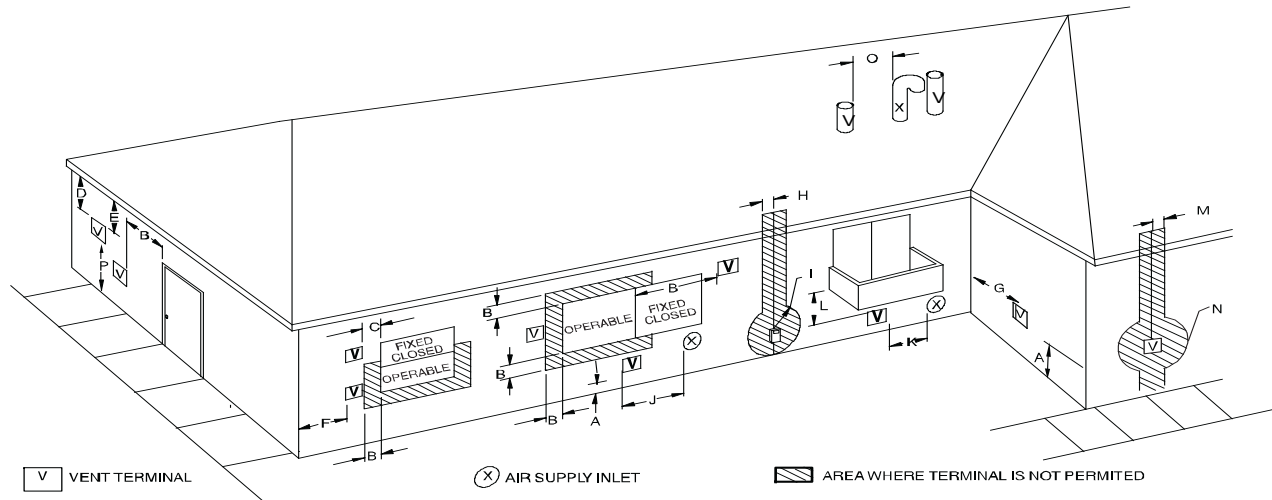
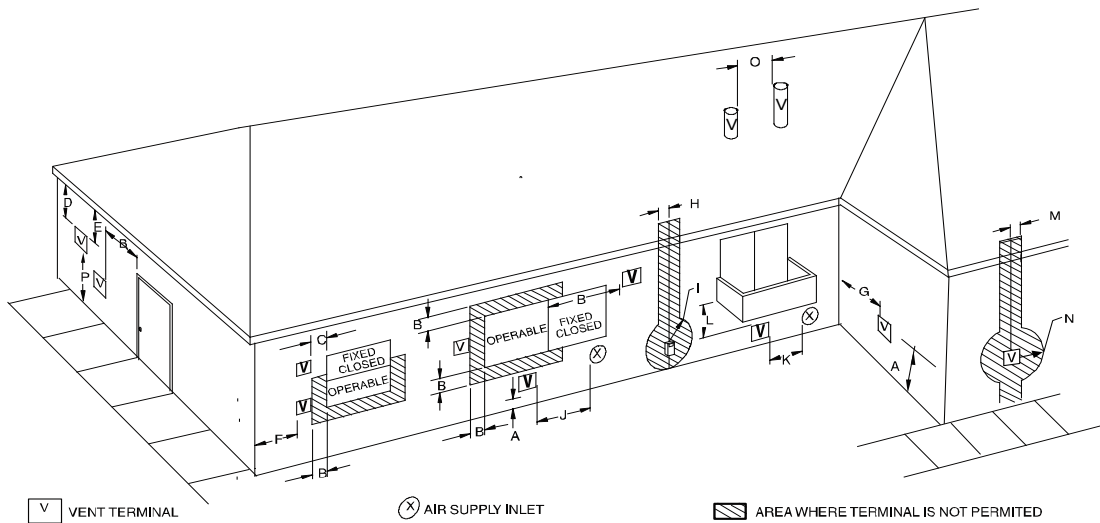
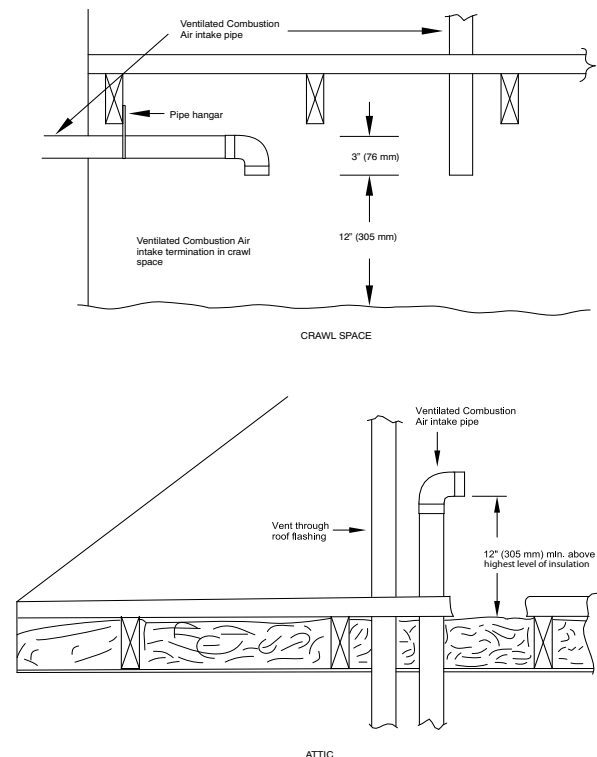

Fig. 43 – Direct Vent Termination Clearance
Fig. 44 – Ventilated Combustion Air and Non-Direct Vent Termination Clearance
Fig. 48 – Vent Terminations for Ventilating Combustion Air
In a direct-vent (2-pipe) system, all air for combustion is taken directly from outdoor atmosphere, and all flue products are discharged to outdoor atmosphere. Combustion-air and vent pipes must terminate together in the same atmospheric pressure zone, either through the roof (preferred) or a sidewall. See Fig. 43 for references to clearances required by National Code authorities.
In a ventilated combustion air option, the vent terminates and discharges the flue products directly to the outdoors similar to a direct vent system. See Fig. 44 for references to clearances required by National code authorities.
outdoor atmosphere. Air for combustion must be supplied as described in the Air For Combustion and Ventilation Section. Do not use an abandoned chimney to supply outside air to the furnace. See Fig. 44 for references to vent clearances required by National code authorities.
For vent termination clearance, references to National codes are shown in Fig. 43 for Direct Vent/2-Pipe system and Fig. 44 for Ventilated Combustion Air/Non-direct Vent/1-Pipe system. For exterior termination arrangements, refer to Fig. 40 for Direct Vent/2-Pipe system and Fig. 41 for Ventilated Combustion Air/Non-Direct/1-Pipe system. Contact Local code authorities for other requirements to and/or exemptions from the National codes shown in the figures.
1. Comply with all clearance requirements stated in Fig. 43 or Fig. 44 per application.
Direct vent (2-pipe) vent and combustion air pipes must terminate outside the structure. See Fig. 43 For references to vent clearances required by National code authorities. Allowable vent and combustion air terminations are shown in Fig. 40.
The vent pipe for a Ventilated Combustion Air System must terminate outdoors. See Fig. 44 for references to vent clearances required by National code authorities. Allowable vent terminations are shown in Fig. 41. The combustion air pipe terminates in a well-ventilated attic or crawl space. Follow the clearances as shown in Fig. 48.
The vent pipe for a Non Direct Vent (1-pipe) system must terminate outdoors. See Fig. 44 for references to vent clearances required by National Code authorities. Allowable vent terminations are shown in Fig. 41.